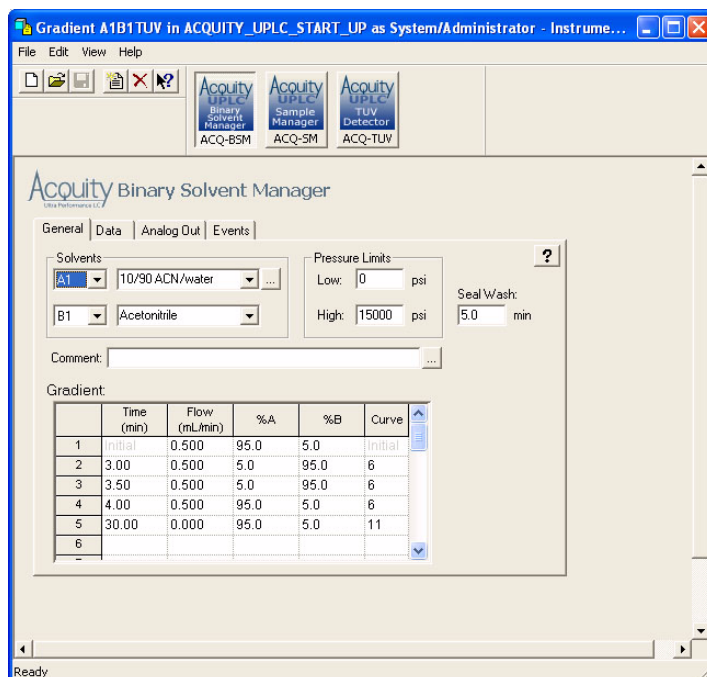
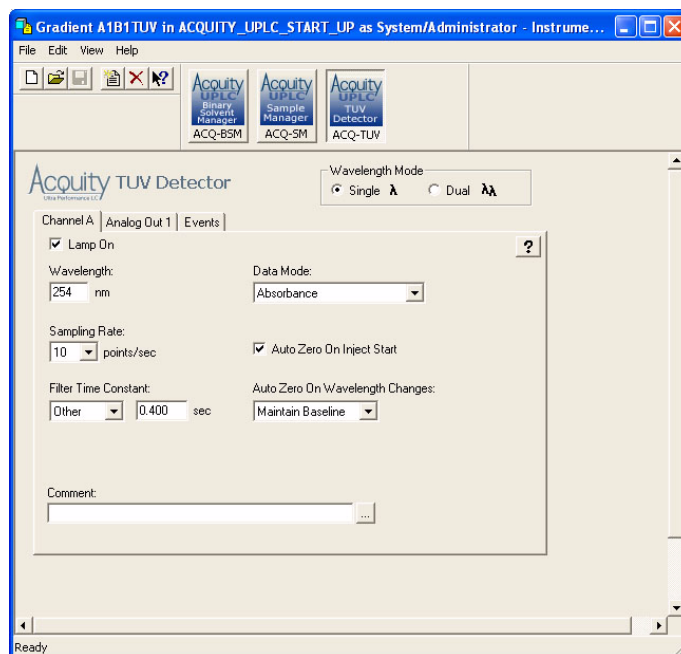

Figure 11 - Gradient Performance Parameters for the Binary Solvent Manager
Figure 14 - Gradient Performance Parameters for the TUV
1. Create an Instrument Method with the parameters shown in Figure 11 through Figure 14.
If using the TUV, create an Instrument Method using the parameters for the gradient performance test shown in Figure 14.